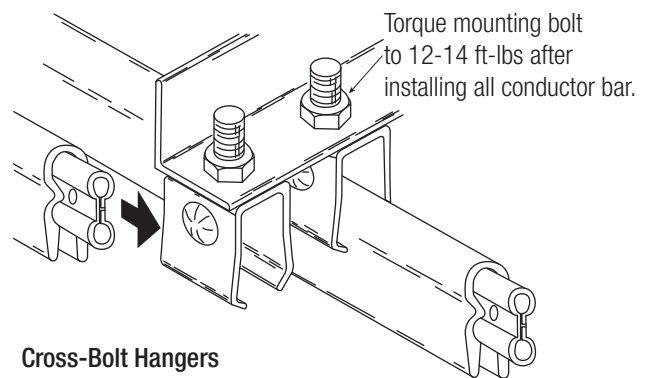

Figure: 9-4
- C. For cross-bolt hangers, torque mounting bolt to 12-14 ft-lbs. after installing all conductor bars. See **Figure 9-4**. See **Table 9-1** for cross-bolt torque specs.